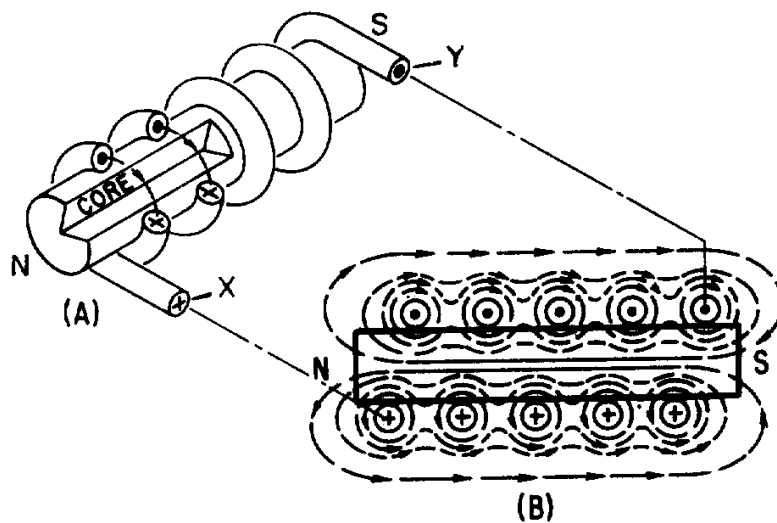

Figure 1-5.—Magnetic field produced by a current-carrying coil.
Figure 1-3(A) illustrates that the magnetic field around a current-carrying wire exists at all points along the wire. Figure 1-5 illustrates that when a straight wire is wound around a core, it forms a coil and that the magnetic field about the core assumes a different shape. Figure 1-5(A) is actually a partial cutaway view showing the construction of a simple coil. Figure 1-5(B) shows a cross-sectional view of the same coil. Notice that the two ends of the coil are identified as X and Y.